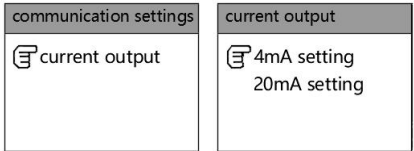

Figure 1
- (4-20)mA setting: 4mA generally corresponds to the zero position of the liquid (material) level, and 20mA corresponds to the highest position of the liquid (material) level. ( Figure 1)